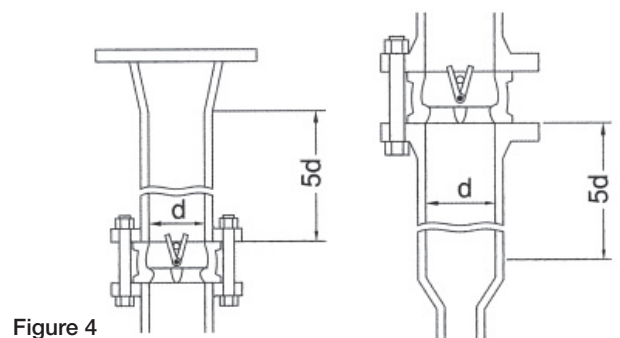

Figure 4
- When a reducer is located near the valve, and the pipe size increases or decreases sharply, the turbulent flow generated nearby may cause fluttering of the disc, vibration, and noise. In such cases, keep the distance to the reducer 5 times or more as much as the nominal valve diameter (Refer to Figure 4).